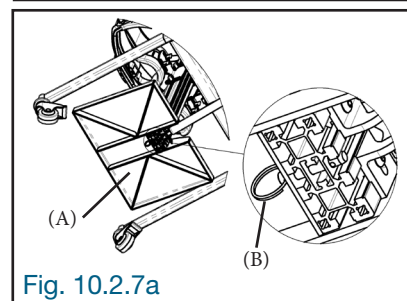
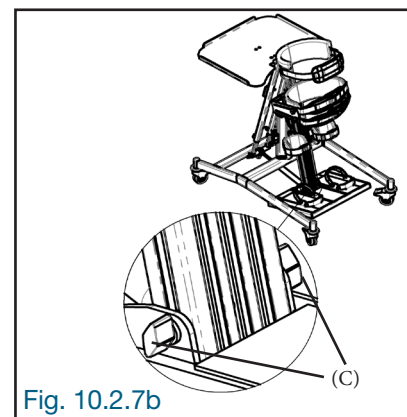

Fig. 10.2.7a
Fig. 10.2.7b
Remove the quick-release pin (B) under the footplate (A) (Fig. 10.2.7a). Loosen the knobs (C) slightly on each side of the footplate (A) (Fig. 10.2.7b).
Slide the footplate (A) on the frame (D) to align the hole (E) in the footplate with the desired hole (F) in the frame (Fig. 12.2.7c). Insert the quick-release pin (B) under the footplate (A). Make sure the lock (G) of the pin (B) is completely disengaged from the other side of the frame (D) so that it is securely locked (Fig. 10.2.7a).
Tighten the knobs (C) on each side of the footplate (A) (Fig. 10.2.7b).